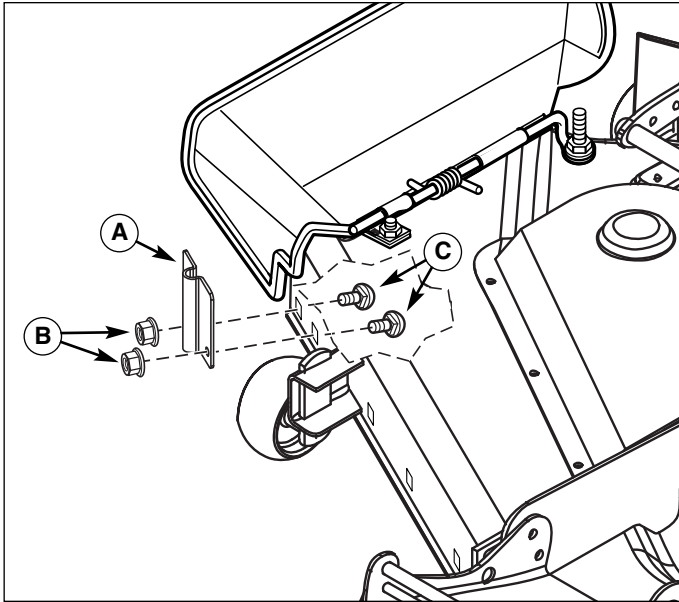

Figure 2. Install Mounting Plate
1. Install mounting plate (A, Figure 2) to mower deck as shown. Secure with carriage bolts (C) and locknuts (B).